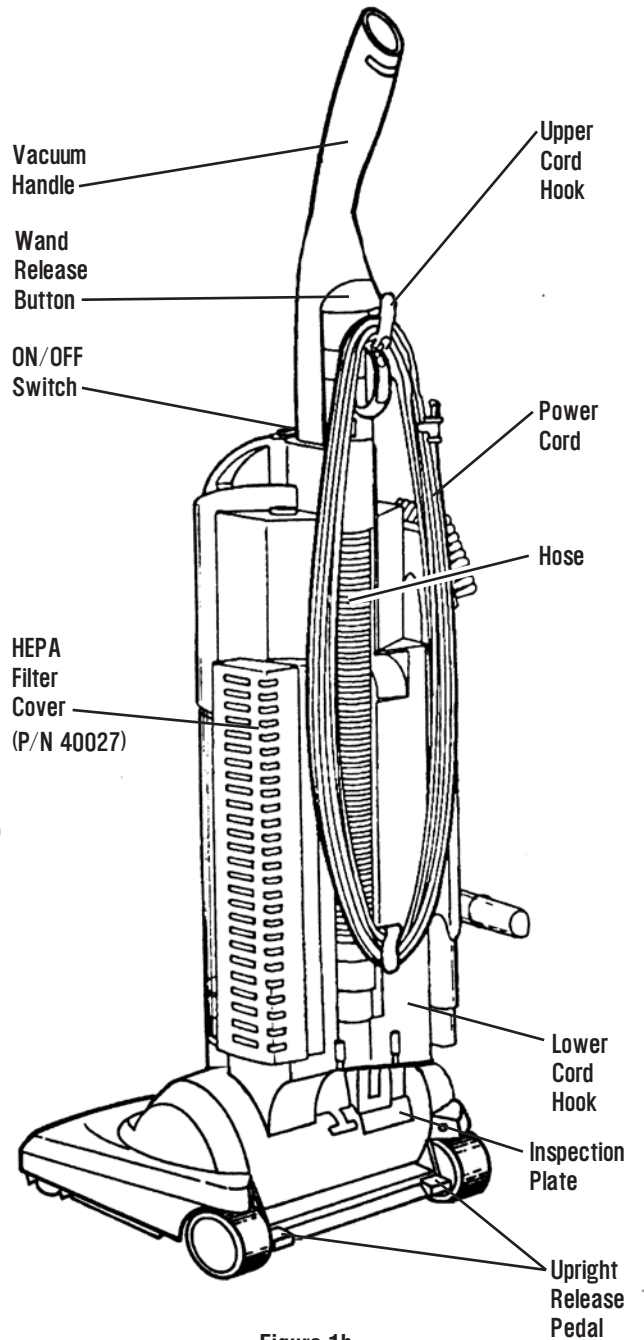

Figure 1b
4. Grasping the Cleaning Wand Handle, guide it up into its storage position. (See Figure 1b.)